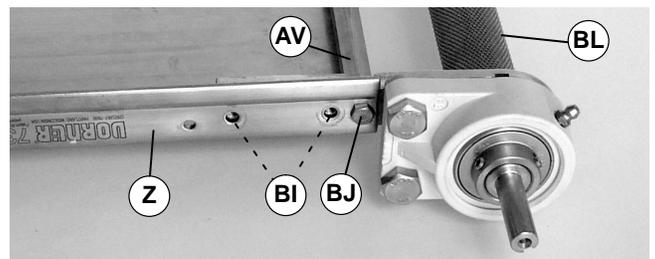
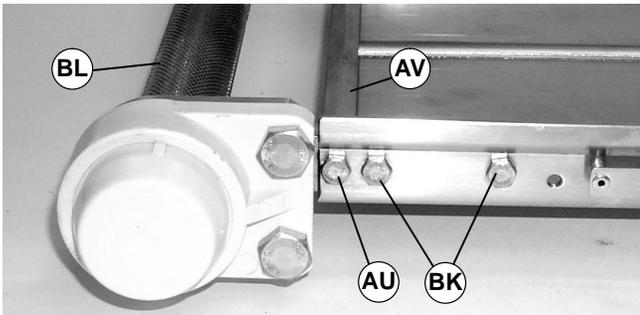

Figure 34
Figure 35
**NOTE:** Two screws (BI of Figure 34) were removed in step 1.
If conveyor is in the upright position, cross support post (AV) will not be secure and may drop when screws (BJ of Figure 34 and AU of Figure 35) are removed.
2. Remove screw (BJ) from conveyor (Z) and cross support post (AV).
3. Remove screw (AU of Figure 35) and cross support post (AV) from conveyor (Z) and drive spindle assembly (BL).
**NOTE:** For a conveyor with a Heavy Load Bottom or Top Gearmotor Mounting Package, the two screws (BK of Figure 35) were removed in step 1.
If conveyor is in the upright position, drive spindle assembly (BL of Figure 35) will not be secure and may drop when screws (AU, BJ and BK of Figures 34 and 35) are removed.
4. Remove two screws (BK of Figure 35) and drive spindle assembly (BL) from conveyor (Z).
3. Position drive spindle assembly (BL of Figure 35) on conveyor (Z) and loosely secure with two screws (BK).
4. Install cross support post (AV of Figure 35) and secure with two screws (BJ of Figure 34 and AU of Figure 35). Tighten screws to 33 in-lb (3.7 Nm).